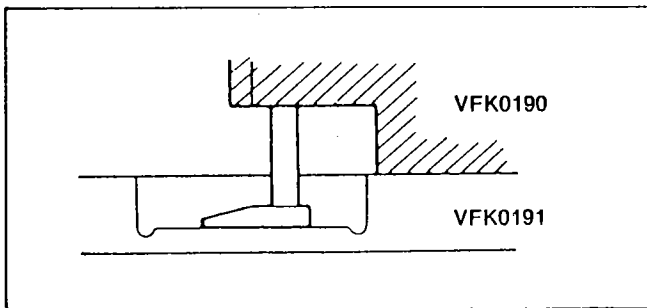

Figure M30
3. Place the Reel Table Height Gauge on the plate so that the scraper of the gauge touches the cut-out portion of the plate, then set the gauge to zero "0" as shown in Figure M30.